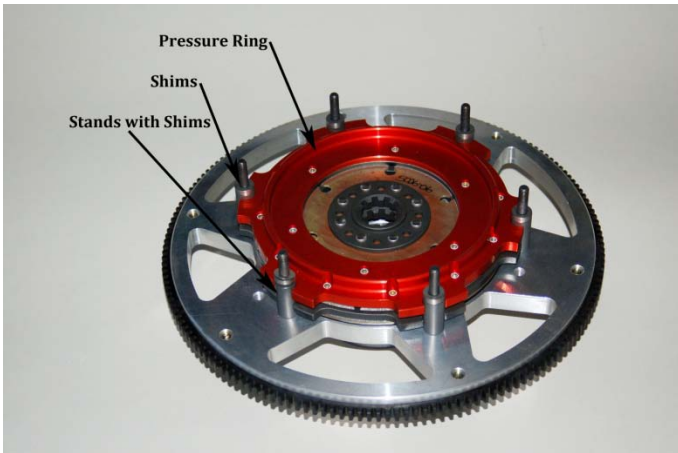

Figure 2
- 2) Lift off pressure plate, pressure ring and top disc and set aside. Reinstall nuts onto studs to retain the shims and stands. **Do Not Remove the Shims and Stands!** Figure 2.